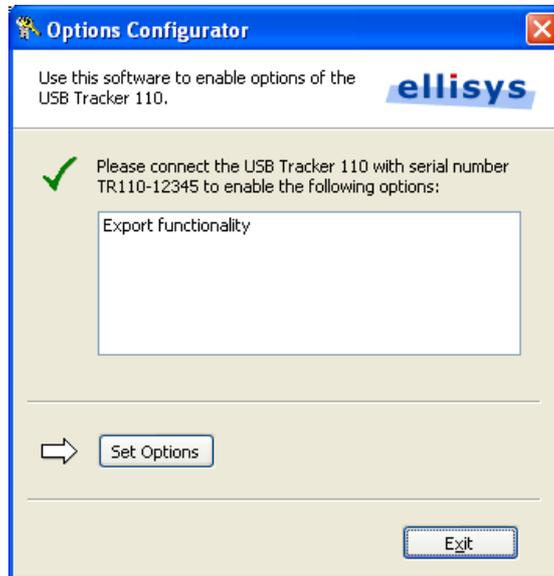

Figure 32 - Software ready to activate optional functionality
- As soon as the analyzer is connected, the software will activate the button "Set Options" (see Figure 32). Only the options displayed in the white rectangle will be activated. If this does not correspond to the options you bought, please contact your local distributor.